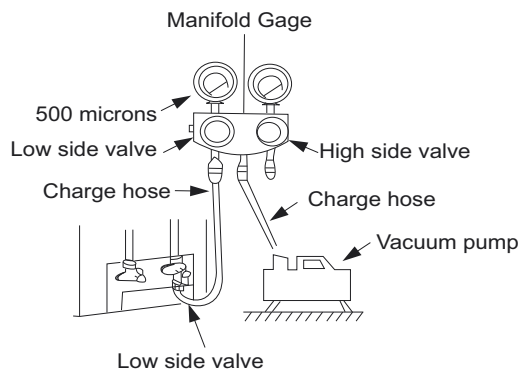

Fig. 35 — Manifold Gauge
3. Fully open the low side of manifold gage (see Fig. 35).